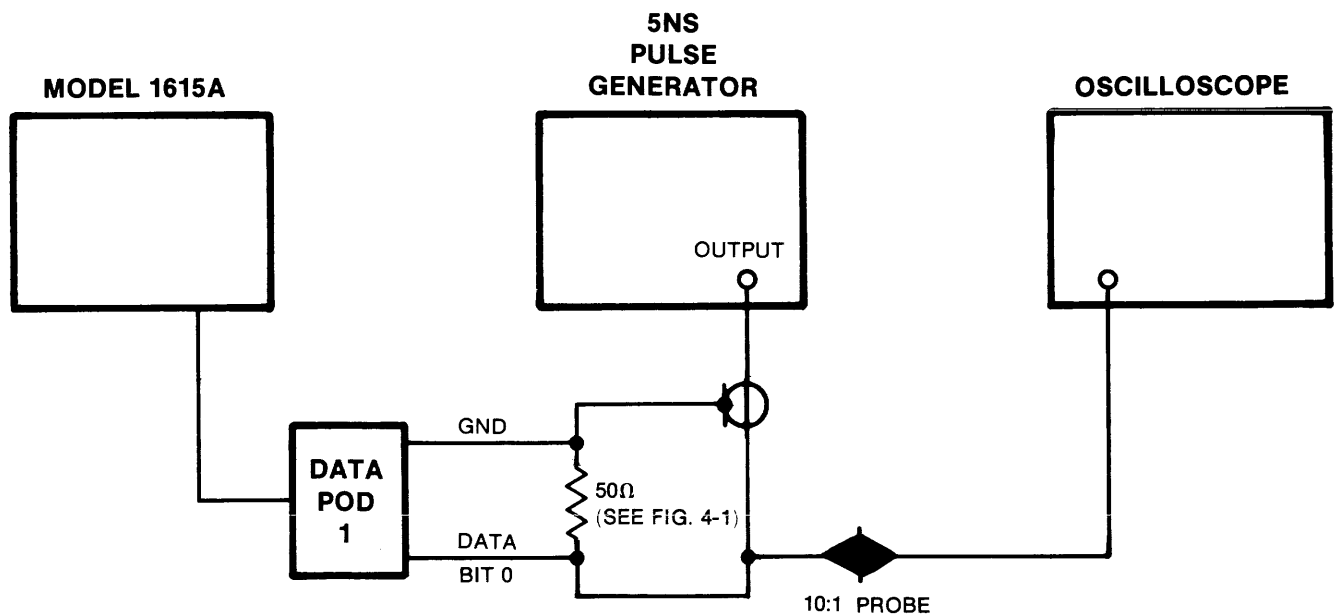

Figure 4-7. Asynchronous Specification Test Setup
- Connect 1615A to test equipment according to figure 4-7. Use pulse generator with 5-ns pulse output capability.